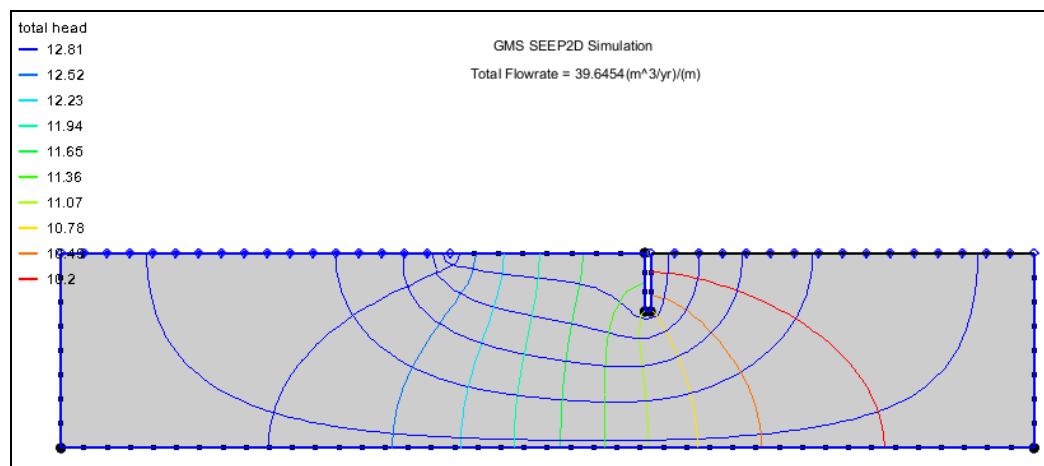

Figure 15 The final view
- Click **OK** to close the *Display Options* dialog. The display should appear similar to Figure 15.